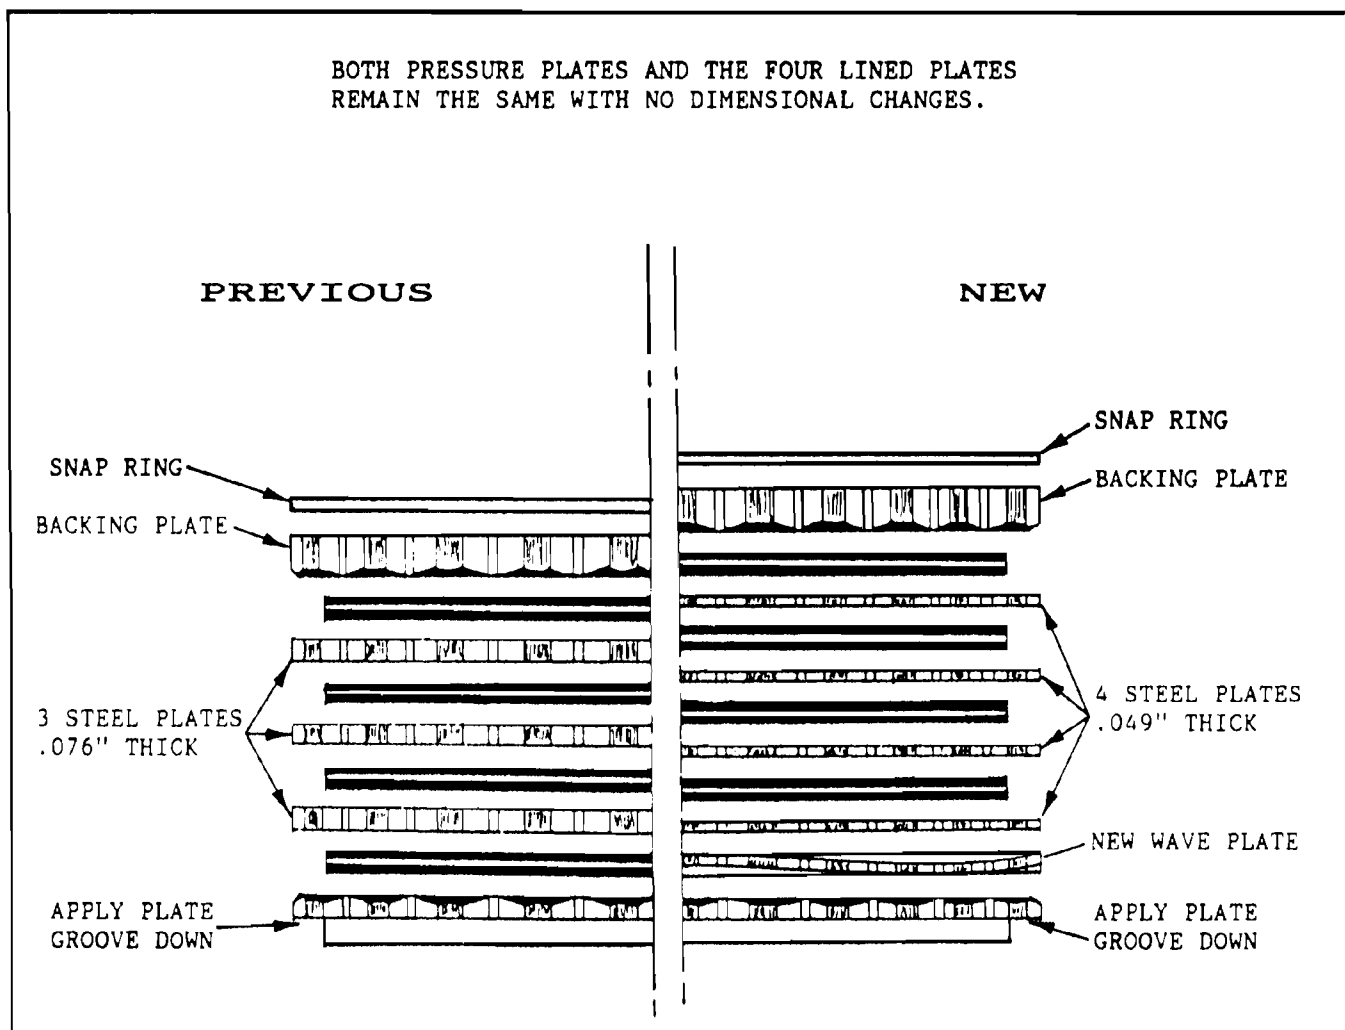

Figure 52
- (3) INPUT CLUTCH STEEL PLATES - The steel plates are .027" thinner to accomodate the added wave plate (See Figure 52). The new steel plates are .049" thick, and the old steel plates are .076" thick.
- (4) INPUT CLUTCH "STACK" - The input clutch stack has been revised to accomodate the new changes. Refer to Figure 52 for proper assembly of the new input clutches.